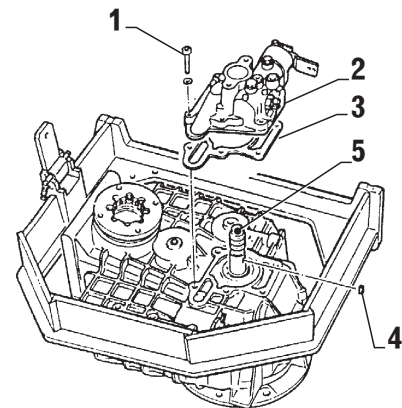

FIG. 5-1
Unscrew allen head bolts (item 1, Fig. 5-1).
Pull control block (item 2, Fig. 5-1) together with seal (item 3, Fig. 5-1) off the input shaft.
Remove key (item 4, Fig. 5-1) from input shaft (item 5, Fig. 5-1).